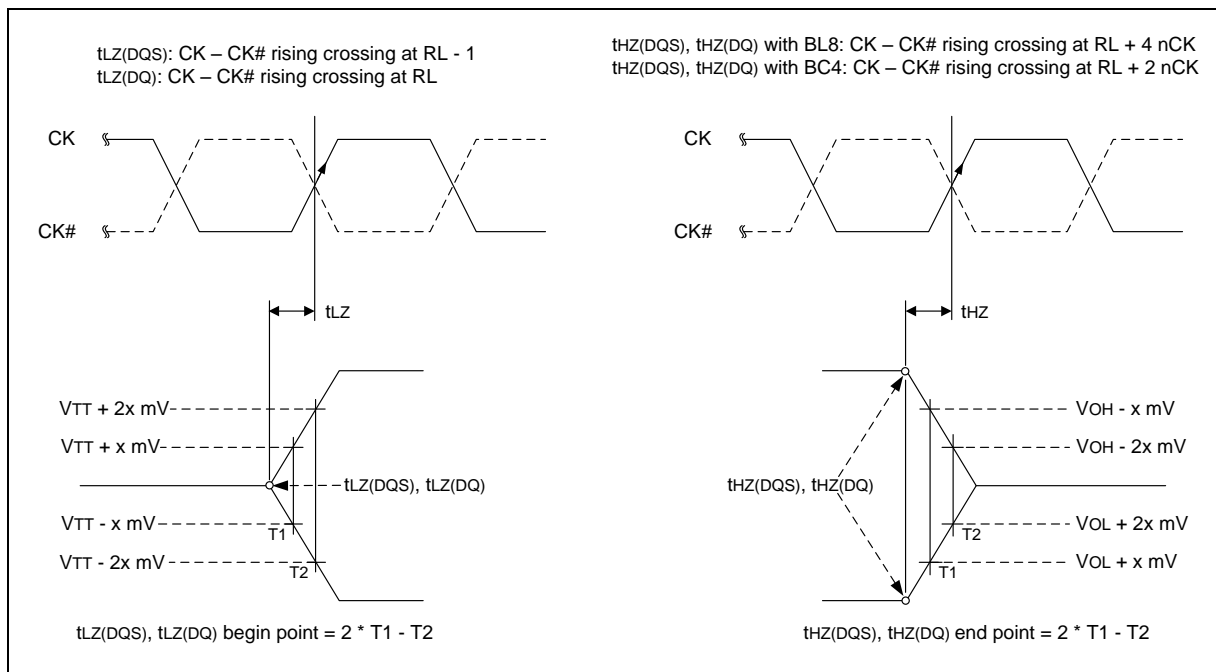

Figure 26 – tLZ and tHZ method for calculating transitions and endpoints
$t_{LZ}(DQS)$, $t_{HZ}(DQS)$ for preamble/postamble (see section 7.13.2.3 and Figure 26).
7.13.2.3 tLZ(DQS), tLZ(DQ), tHZ(DQS), tHZ(DQ) Calculation
tHZ and tLZ transitions occur in the same time window as valid data transitions. These parameters are referenced to a specific voltage level that specifies when the device output is no longer driving tHZ(DQS) and tHZ(DQ), or begins driving tLZ(DQS), tLZ(DQ). Figure 26 shows a method to calculate the point when the device is no longer driving tHZ(DQS) and tHZ(DQ), or begins driving tLZ(DQS), tLZ(DQ), by measuring the signal at two different voltages. The actual voltage measurement points are not critical as long as the calculation is consistent. The parameters tLZ(DQS), tLZ(DQ), tHZ(DQS), and tHZ(DQ) are defined as singled ended.